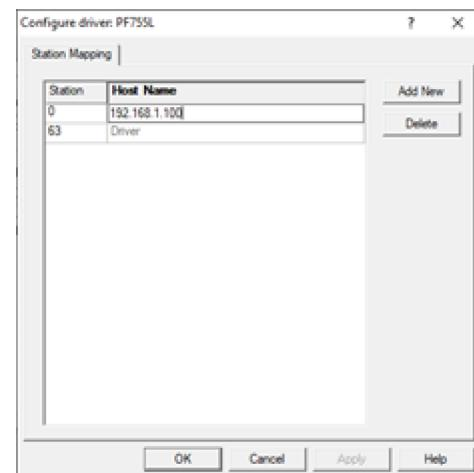

Fig. 26 — Station Mapping
3. Set Host to the same address as the computer IP address. See Fig. 26.